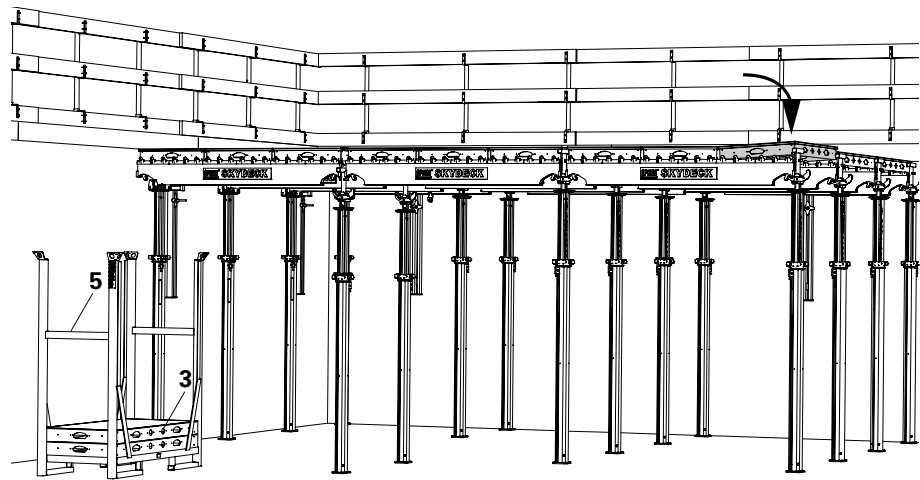

Fig. A4.18
Set down Pallet SD (5) with panels (3) onto the forming area. Place panels in the main beams. Make empty pallets available in preparation for the striking process. (Fig. A4.18)